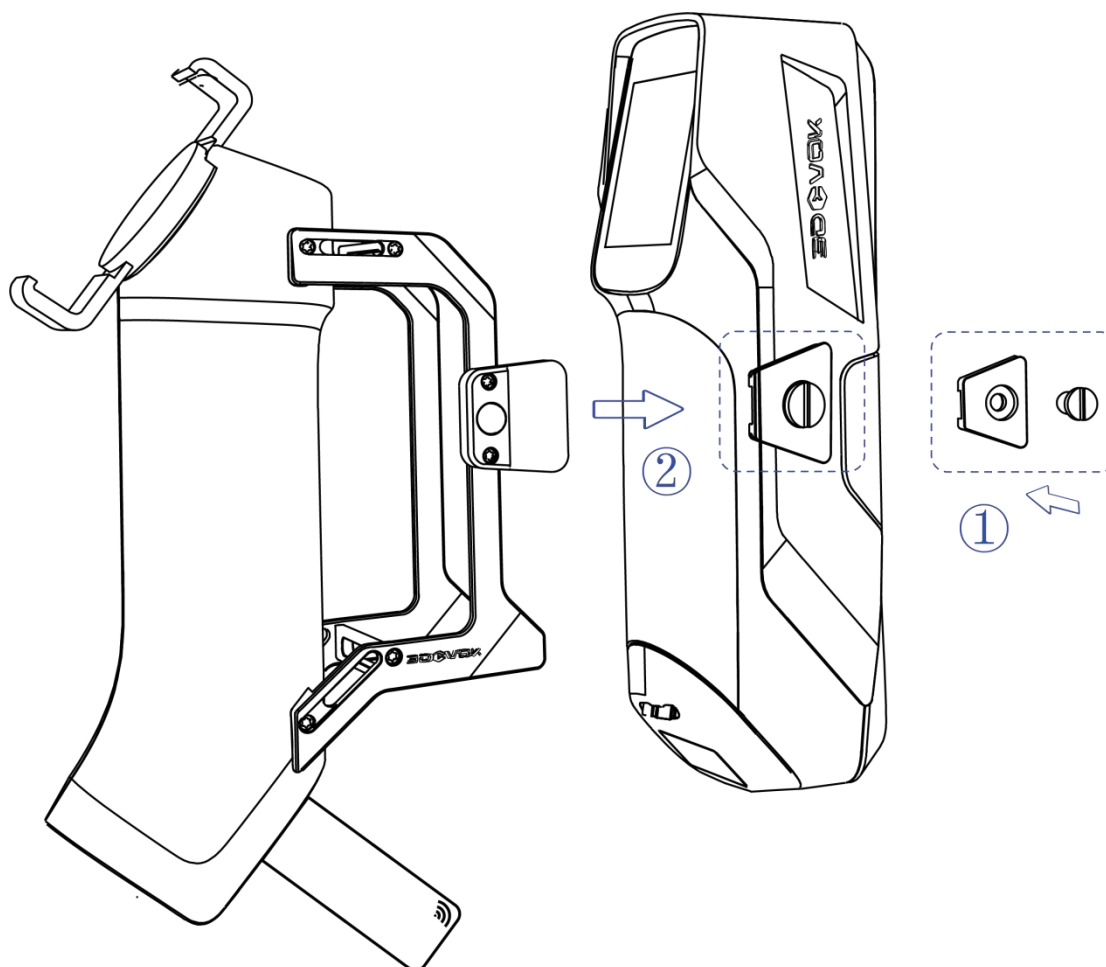

Figure 3-15 Assembly of Wireless Handle-Network Card Solution
3. Take out the trapezoidal fixing piece and the screw. Place the screw into the threaded hole of the fixing piece, as shown in Figure 3-15 (①). Use a flat head screwdriver to secure the fixing piece and screw to the card slot of the 3DeVOK scanner, as shown in Figure 3-15 (②). **Simultaneously, firmly snap the handle buckle into the fixing piece until a "click" sound is heard.**